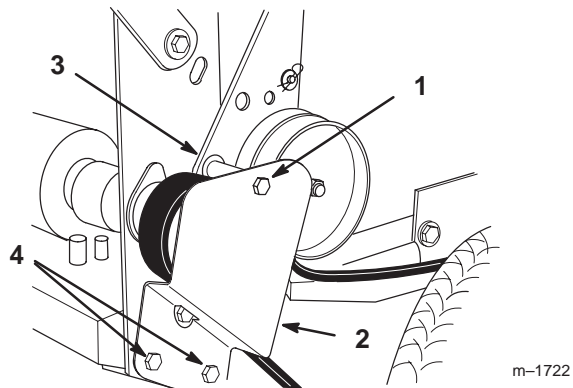

Figure 57
1. Remove top capscrew securing idler support and idler bracket to rear frame (Fig. 57).
2. Loosen bottom two mounting screws enough to allow belt to pass between drive pulley and idler support (Fig. 57).